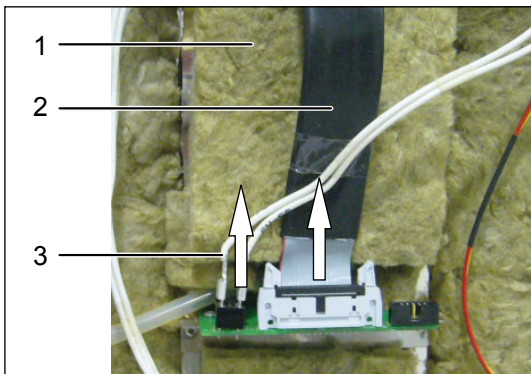
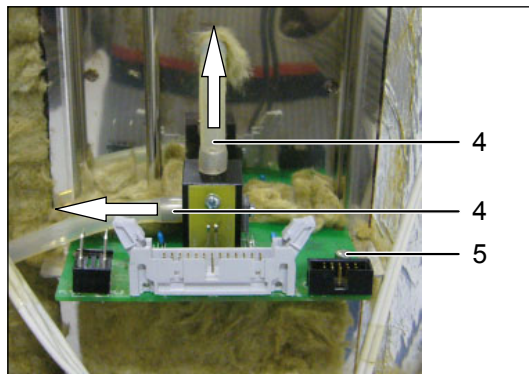
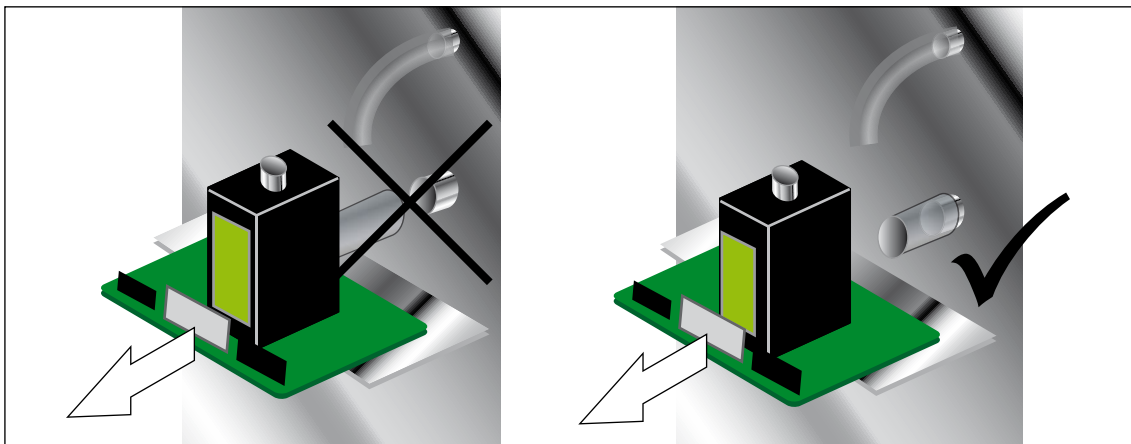

Fig. 35
Fig. 36
Fig. 37 Pull off the sensor with the PCB from the tube coming out the rear. Pull the tube from the sensor, and not from the appliance, when doing this.
4. Remove insulation material on the CO₂ sensor in the rear panel of appliance (Fig. 35).
5. Pull off 25-pin signal lead (2) and both control cables (3).
6. Pull off silicone tubes at the top and left on the CO₂ sensor (Fig. 36).
7. Undo both screws (4) of the mainboard.
8. Carefully undo sensor from the silicone tube on the rear panel (Fig. 37). Hold the silicone tube tightly so that it remains positioned on the connecting piece on the rear panel.